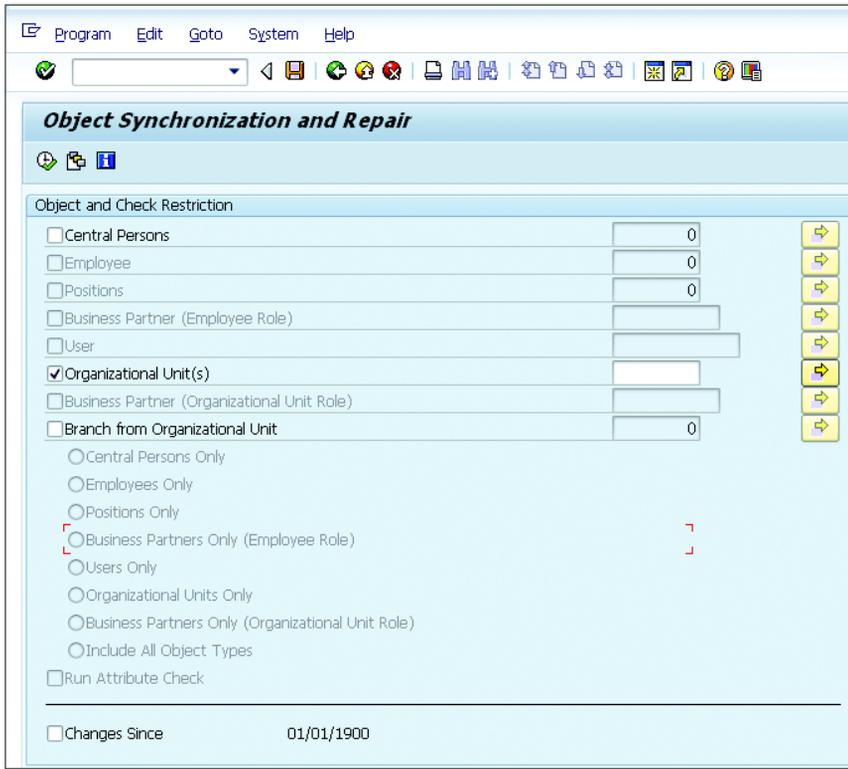

Figure 2.5 Object Synchronization and Repair (1)
1. Execute Report CRM_COM_ORGMAN_BUPA_INTEGRATE with the parameters shown in Figure 2.5.